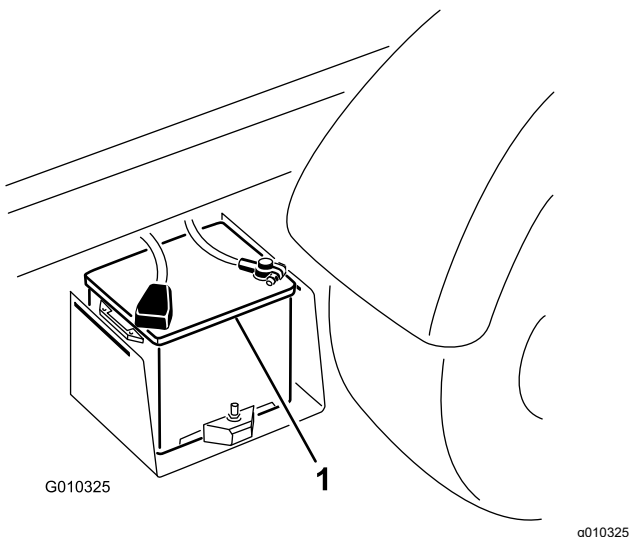

Figure 42
2. Connect a jumper cable between the positive posts of the 2 batteries (Figure 42).